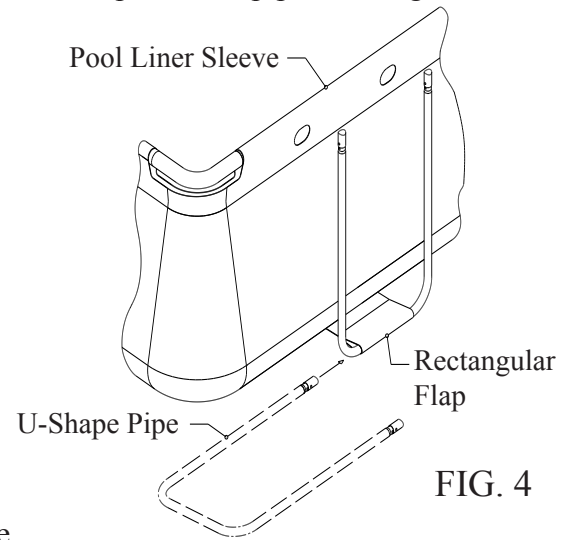

FIG. 4
4. Now insert the (U-Shape) pipe sections through the end of each rectangular flap at the bottom of the pool Fig. 4. **Note: The ladder should be assembled prior to raising the wall to allow helpers easy access in and out, ladder assembly instructions are with the ladder.** Next, one or two other persons will have to support the horizontal beam raising the pool wall from inside the pool as another person inserts the (U-Shape) pipe supports Fig. 5. Insert the capped ends of the (U-Shape)